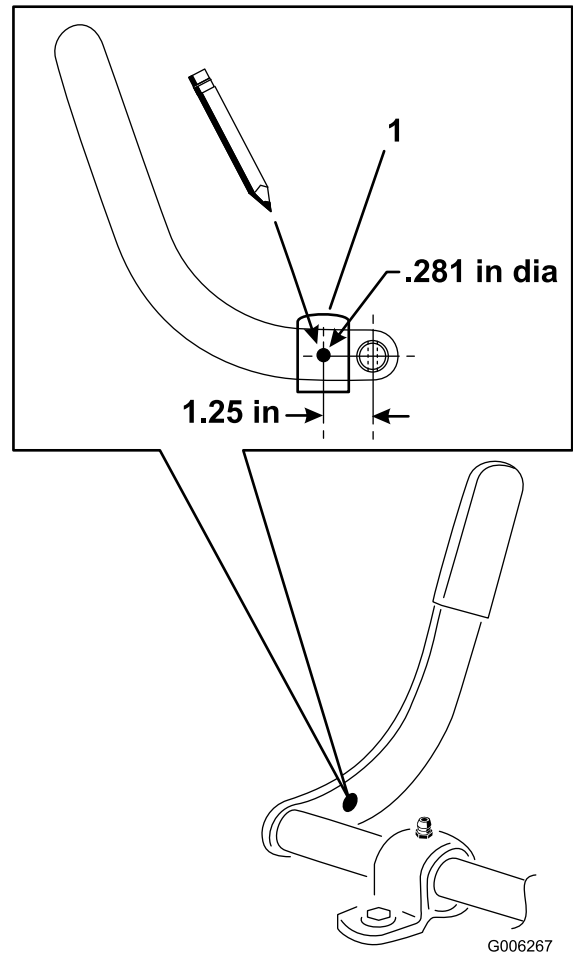

Figure 10
7. Use the dimension shown in Figure 10 and the bracket to locate, mark and drill a .281 inch diameter hole in the PTO lever.